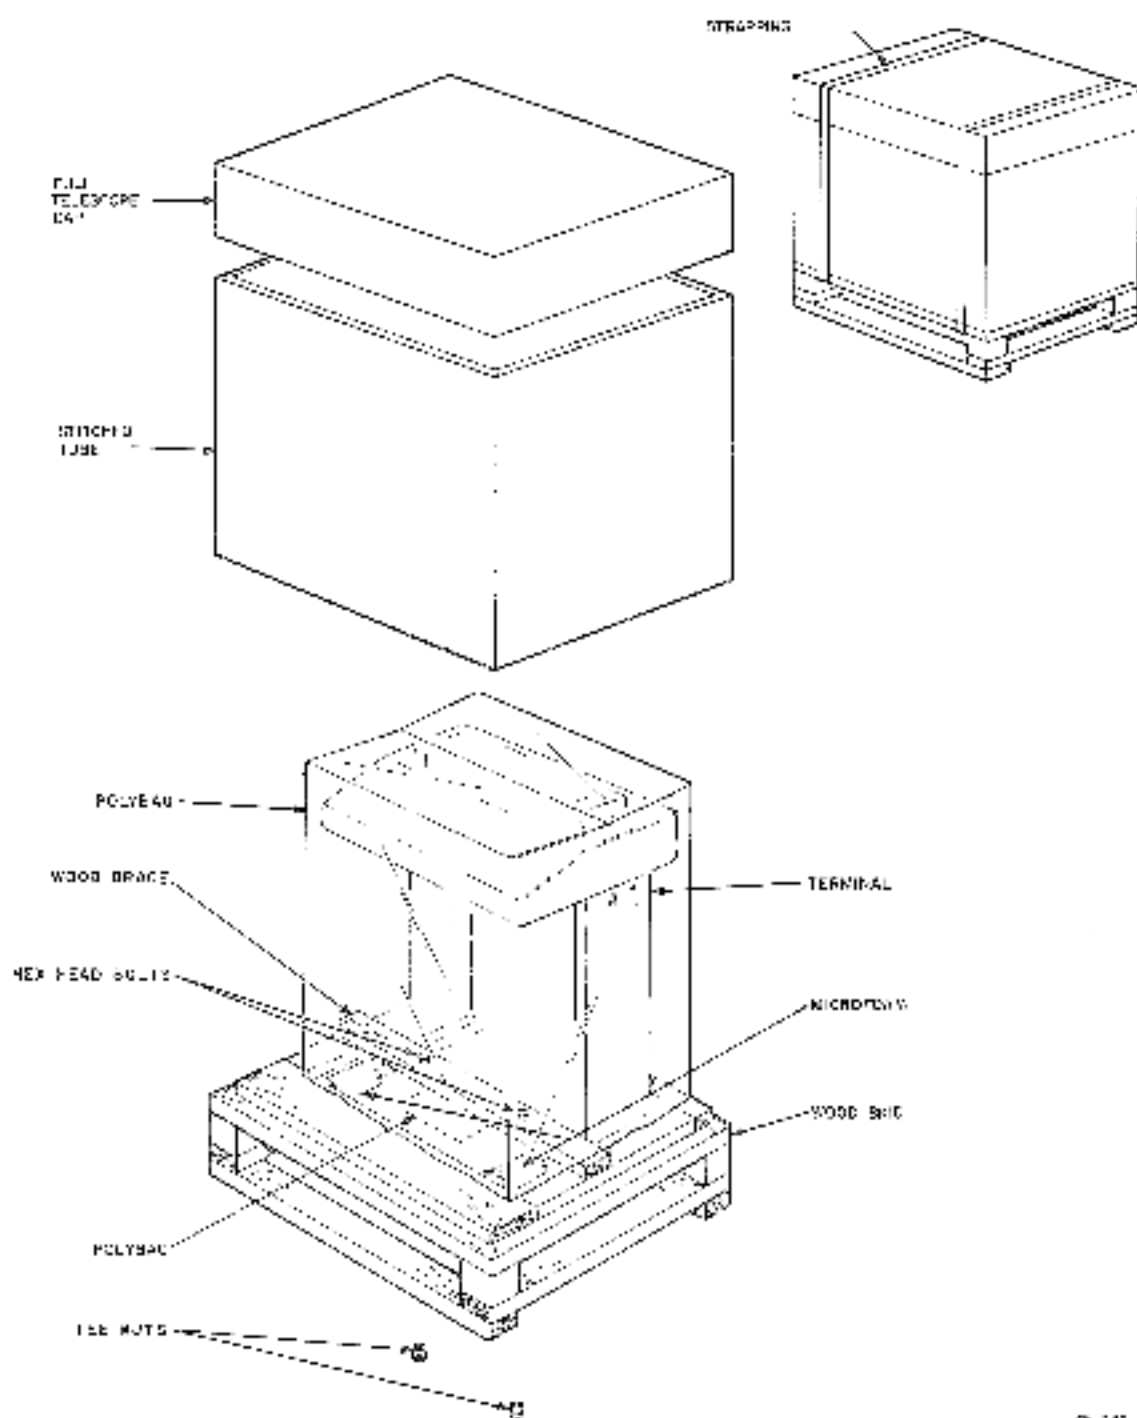

Figure 3 LA180 Packaging
3. Remove all shock-absorbing material and packing from around the LA180 (Figure 3).
3. Pack the LA180 as shown in Figure 3.